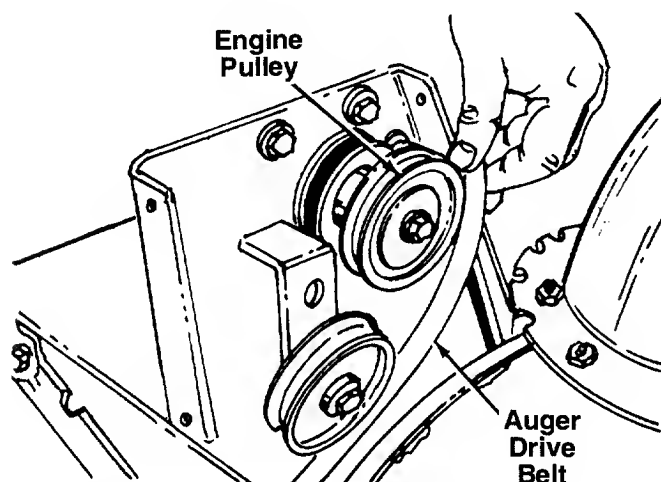

FIGURE 31.
4. Slip the auger drive belt (the front belt) off the engine pulley. See figure 31.